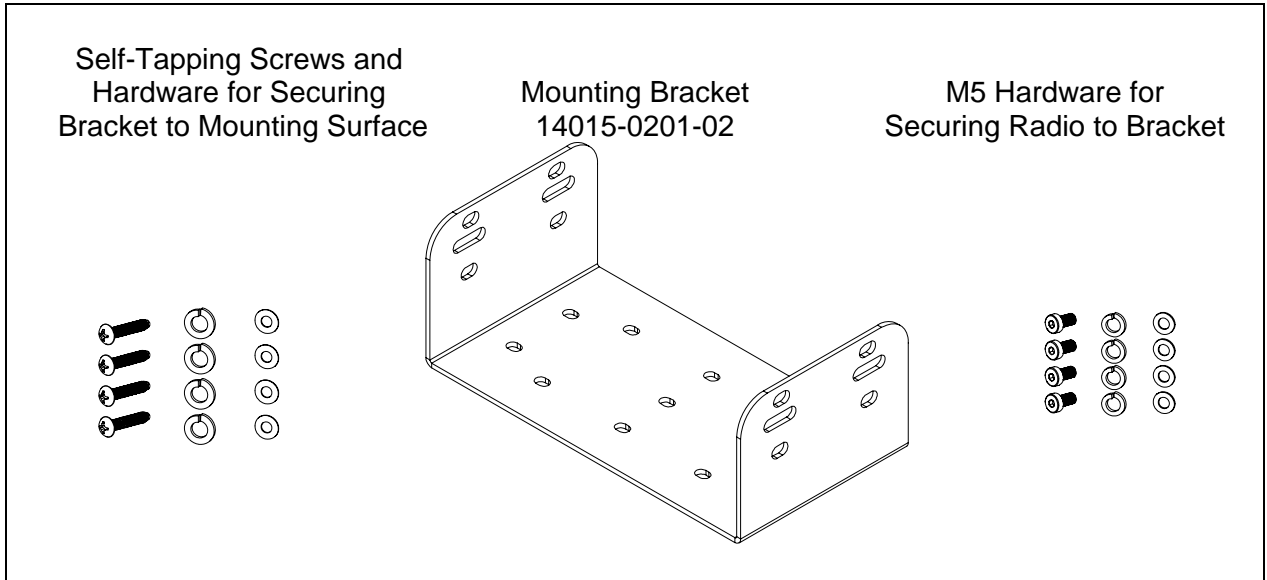
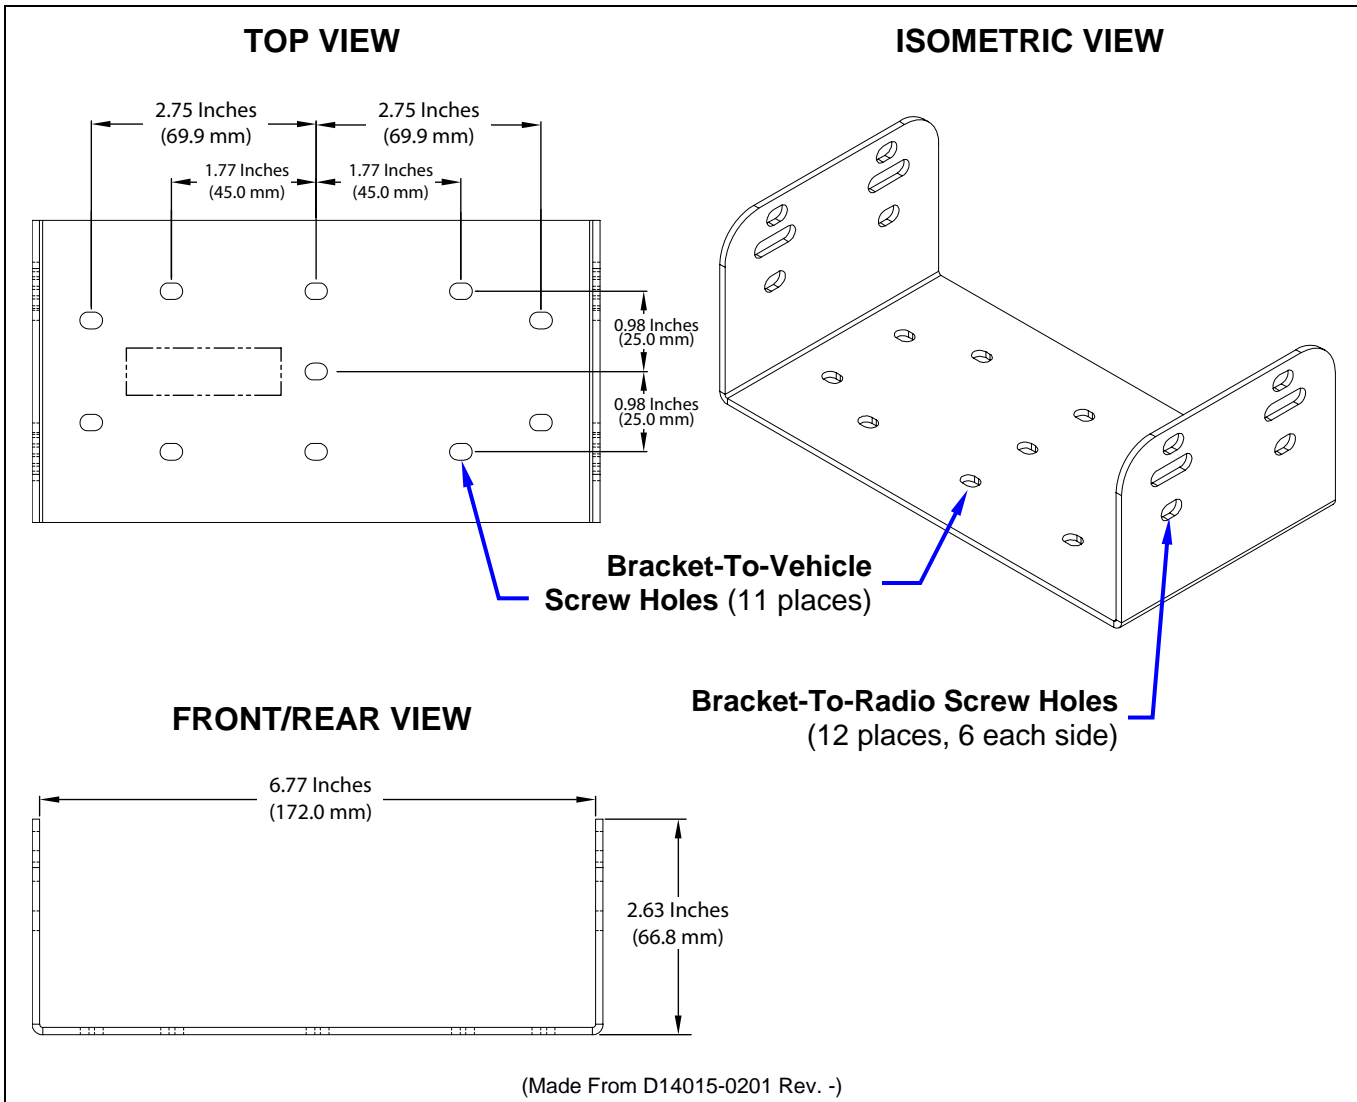

Figure 7-2: Mounting Bracket Kit 14015-0201-01
Figure 7-3: Mounting Bracket 14015-0201-02 Dimensions (Radio Not Shown)
The Mounting Bracket Kit for the radio includes a heavy-gauge steel U-shaped mounting bracket. The radio should be attached to a mounting surface using this bracket. The bracket can be mounted above or below the radio. Kit contents are shown in Figure 7-2, and bracket dimensions are shown in Figure 7-3.
The radio's mounting bracket is included with the Mounting Bracket Kit 14015-0201-01. Kit contents are shown in Figure 7-2. This kit is Item 1 listed in Table 4-2 (page 12).
As illustrated in Figure 7-3, the bracket is both left-to-right and front-to-rear symmetrical. It has eleven (11) holes for securing it to a mounting surface. At least four (4) of these holes must be used to secure the bracket to the mounting surface. Four 1-inch-long #10-32 stainless-steel self-tapping screws are included
6. Using the bracket as a template, and/or the dimensional information shown in Figure 7-3, mark and drill at least four (4) mounting holes into the mounting surface as required per the type of hardware used.
2. Secure the radio to the bracket using the four (4) M5 x 10 mm stainless-steel socket-head screws, flat washers, and lockwashers. Each screw should have a lockwasher against the screw head and a flatwasher against the mounting bracket. This hardware is included with the Mounting Bracket Kit. The kit's contents are shown in Figure 7-2. The kit is Item 1 listed in Table 4-2 (page 12).